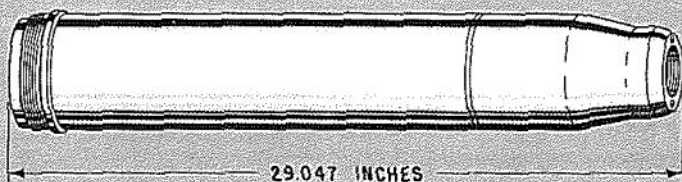

FIG. 4. 5.0-Inch Rocket Head Mk 32 Mod 0 (ATAP).
The Mk 32 Mod 0 rocket head, antitank, antipersonnel (ATAP) is shown in Figure 4. Used in ZUNI, this head with a point-detonating (PD) fuze (Mk 188 Mod 0) effects shaped-charge action. *Thus, it is highly effective against heavy targets such as tanks or bunkers.* The Mk 32 head has a cavity liner to prevent exposing the explosive when fuzes are changed. For fragmentation action against aircraft or personnel, a proximity fuze (M 414) may be attached to the head.